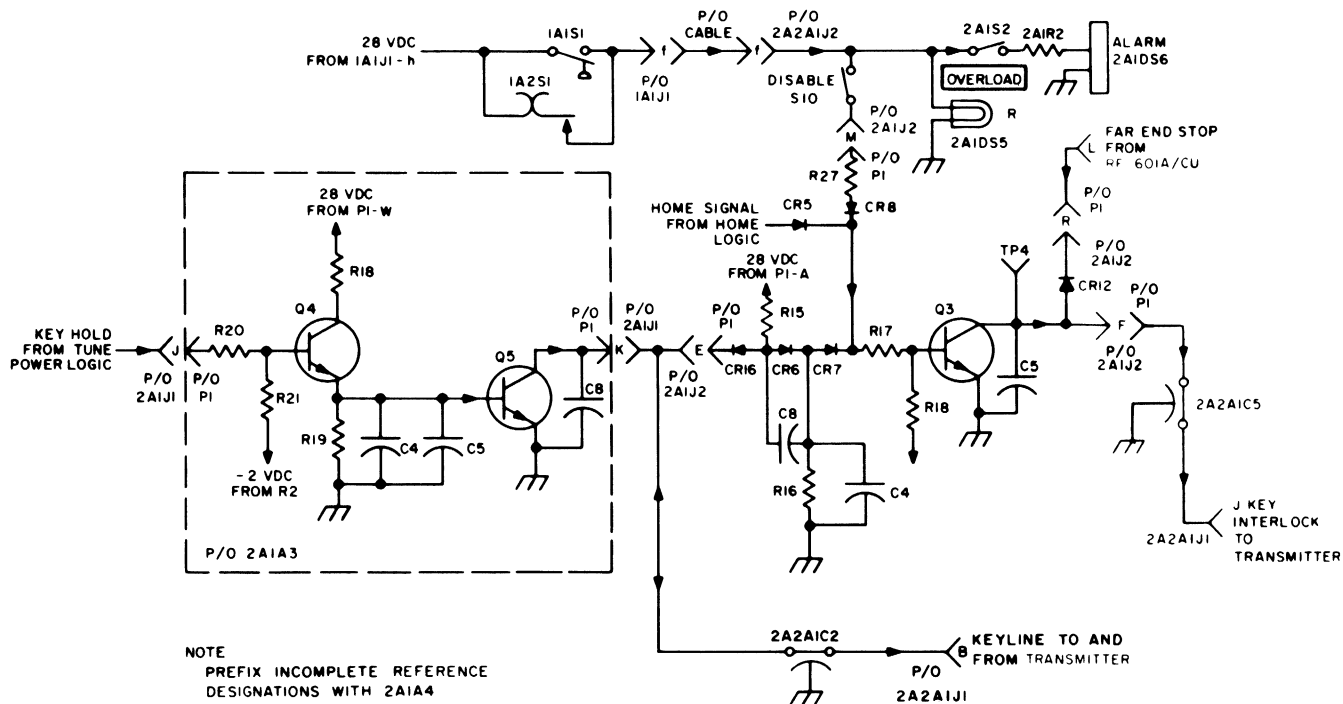

Figure 4.15. Keying Logic, Simplified Schematic Diagram
4.2.9.6 Keying Logic. The keying logic (figure 4.15) consists of a DC amplifier (2A1A3Q4), two inverters (2A1A3Q5 and 2A1Q4Q3), the RF-601A/CU pressure and temperature overload circuitry, and various other gates and parts. The functions of this circuit are (1) to interlock the keyline to prevent keying during the home cycle, (2) to hold the system keyed during the tuning cycle, and (3) to interlock the transmitter key circuits to prevent the system from being keyed if there is a temperature or pressure overload or if one of the tuning elements is run against its far end stop. The keying portion of the circuit is used only during automatic operation. However, the interlock portion of the circuit is used in all modes of operation.